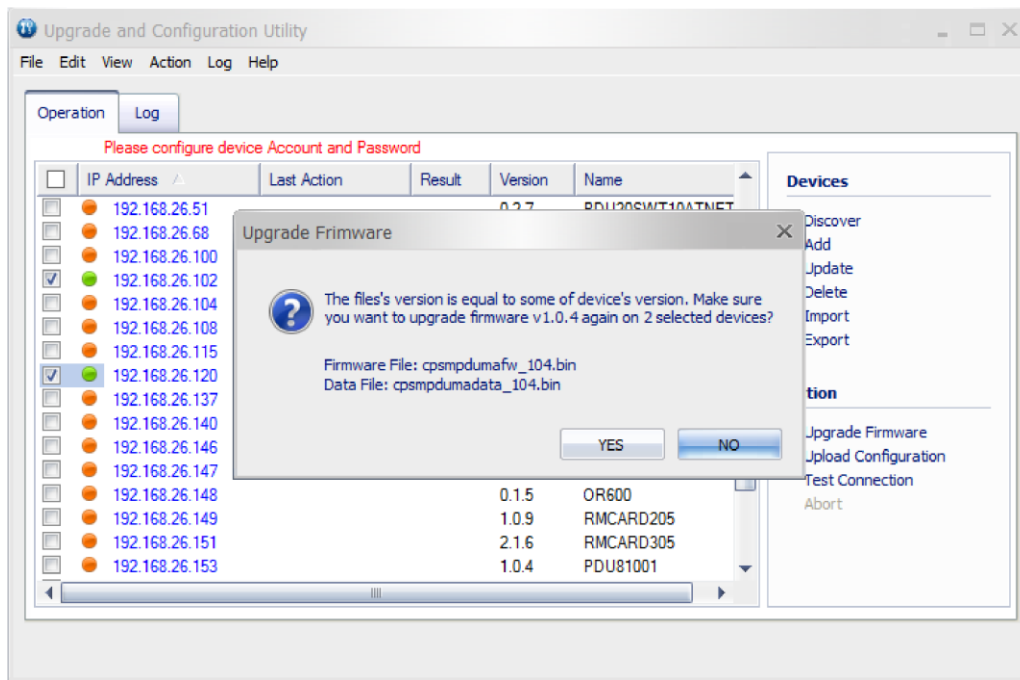

Figure 5.
10. Click **YES** to start the firmware upgrade process on the selected devices (shown in Figure 5.).